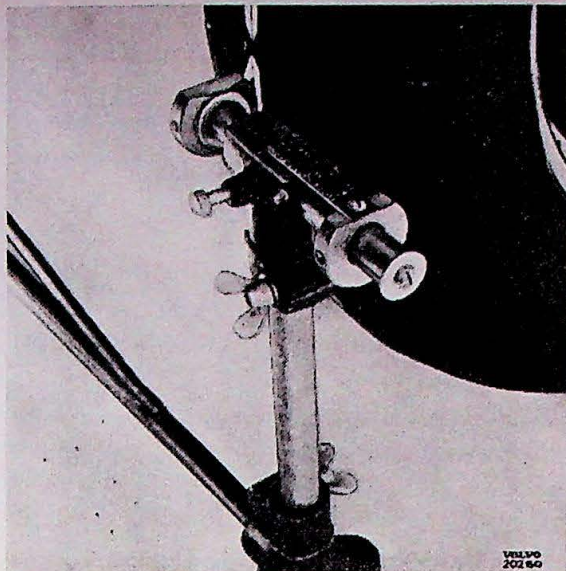

Fig. 44.
6. Move the tool carefully to the front side of wheels with the fixed pointer towards the right wheel marking line. Adjust the measuring end pointer against the left wheel marking line and read the toe-in (fig. 44). The PV 444-445 toe-in should be 0—3 mm.